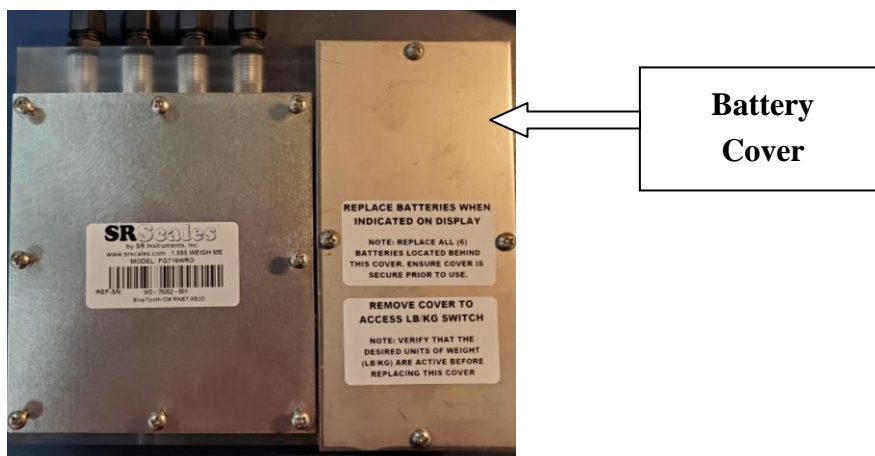

Figure 4: Battery Replacement
| Figure 4: Battery Replacement..... | 10 |
STEP 1: Turn the platform over and remove the four screws on the Battery Cover (Figure 4).
STEP 2: Remove and replace the six (6) “AA” cell batteries.
STEP 2: Remove the two (2) screws holding the display housing to the platform
STEP 3: Pull the display out from under the platform and remove the eight (8) screws from the display box cover pictured in (Figure 4).